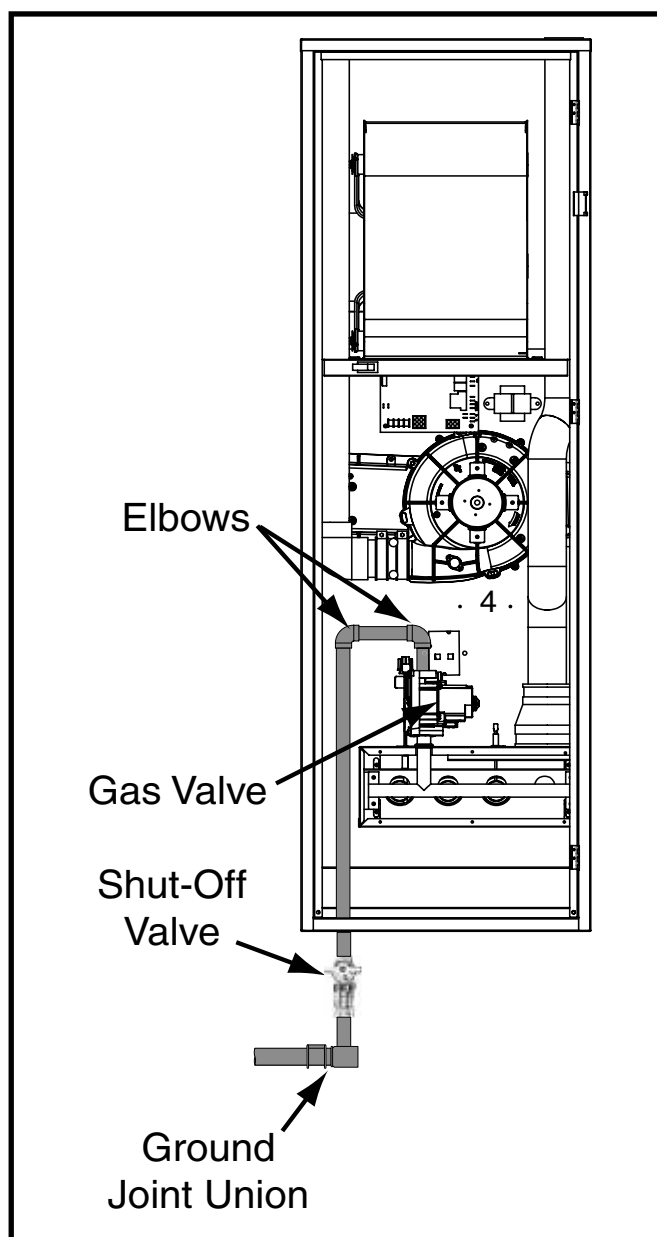

Figure 12. Typical Gas Connections
- Some local regulations require the installation of a manual main shut-off valve and ground joint union external to the furnace as shown in Figure 12 (page 17). The shut-off valve should be readily accessible for service and/or emergency use. Consult the local utility or gas supplier for additional requirements regarding placement of the manual main gas shut-off.
The furnace is installed with a bottom gas entry. When connecting the gas supply, provide clearance between the gas supply line and the entry hole in the furnace casing to avoid unwanted noise and/or damage to the furnace. Typical gas hookups are shown in Figure 12.